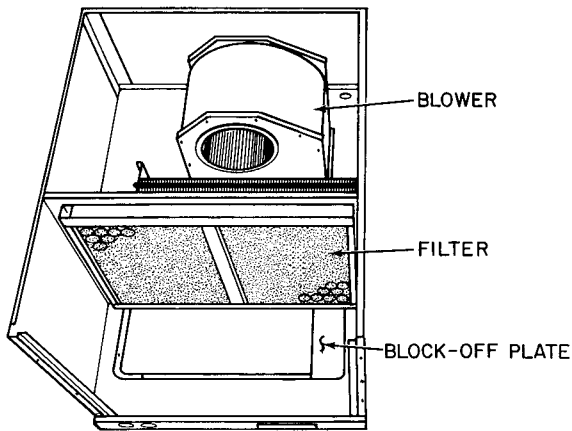

**Fig. 19 – Vertical Discharge Block-Off Plate
4. On 48LJ012,014 units, install vertical discharge block-off plate over duct openings. See Fig. 19.